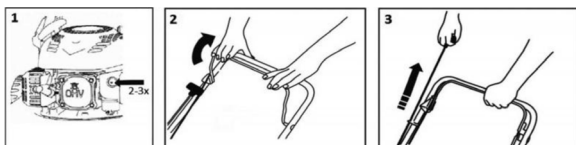

Fig.6
If the engine has not been warmed up, press the starter cord 2-3 times (Fig. 6 - item 1). If the engine has already been warmed up, it is not necessary to use the starter cord.
Pull the start/brake lever toward the handle and hold it in this position (Fig. 6 - item 2), then pull the starter handle (Fig. 6 - item 3). The engine should start after 3-4 pulls.